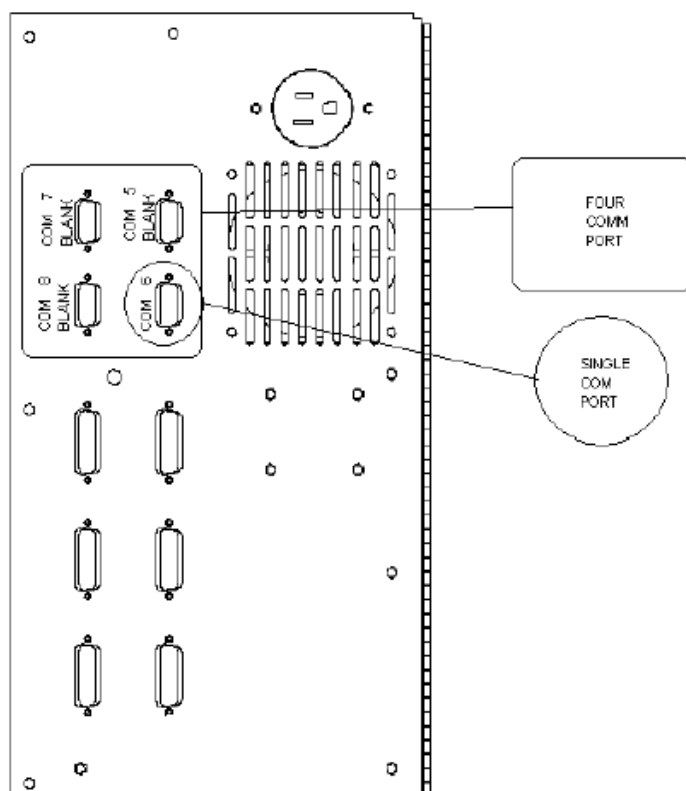
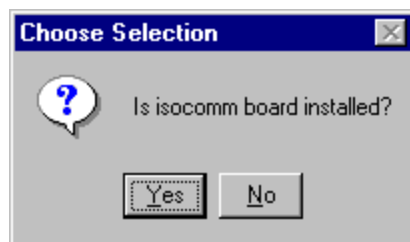

FIGURE 1-16. Vitalbus Communication Port Options
FIGURE 1-17. Isocomm Dialog
- 1.38 Examine the communication ports on the Vitalbus assembly. If you have four communication ports - COM 5, COM 6, COM 7, and COM 8 (see FIGURE 1-16.), then touch the 'Yes' button for 'Is isocomm board installed?' in the dialog box shown in FIGURE 1-17. Select the 'No' button if COM 5, COM 7, and COM 8 are covered with blank plates.